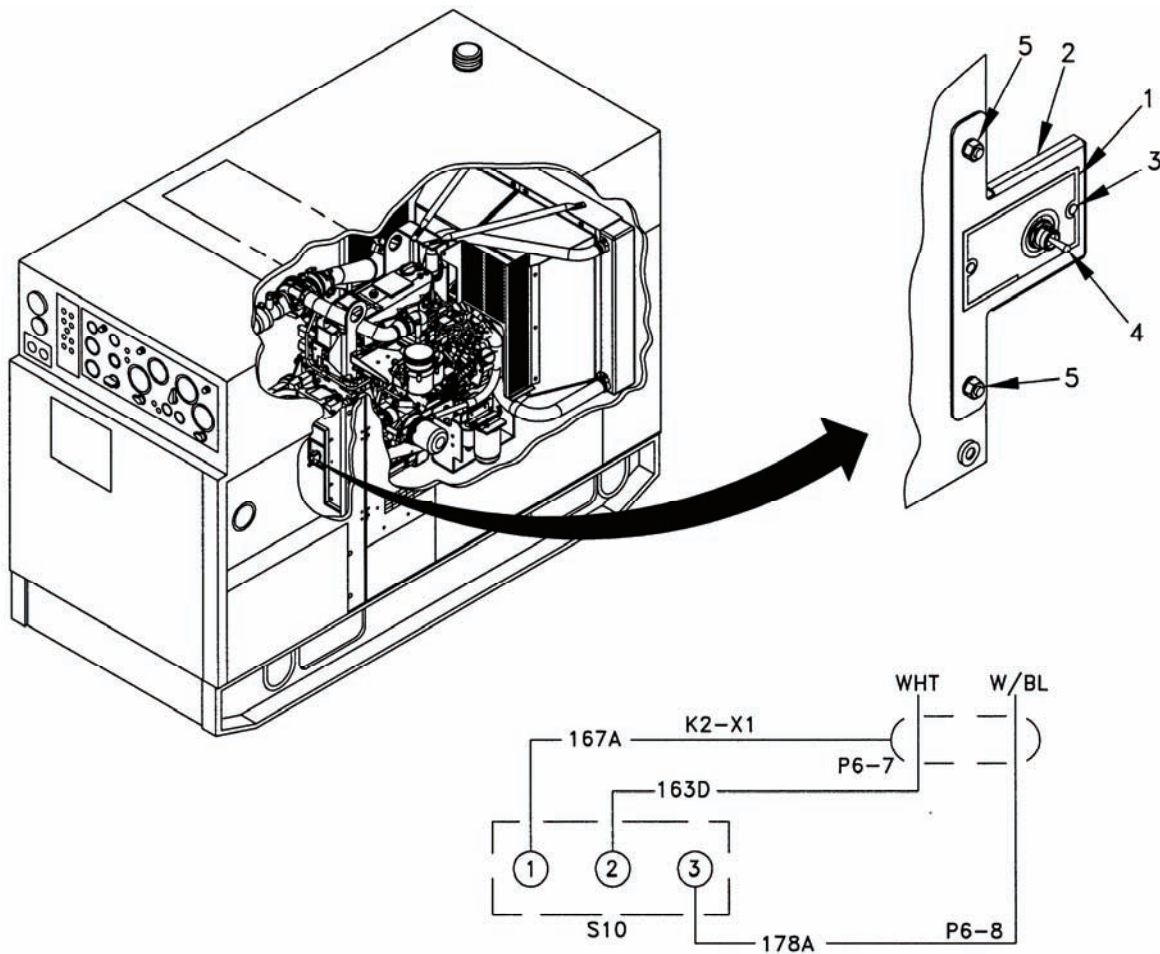

Figure 5-42. DEAD CRANK Switch.
- a. Install switch plate (1, Figure 5-42) (Item 114, Table 5-1) to DEAD CRANK switch bracket (2) (Item 91, Table 5-1) using two rivets (3) (Item 100, Table 5-1).
- b. Install DEAD CRANK switch S10 (4) to bracket (2) using hardware removed with switch.
- c. Remove existing hardware (5) and install new DEAD CRANK switch bracket (2) using removed hardware.